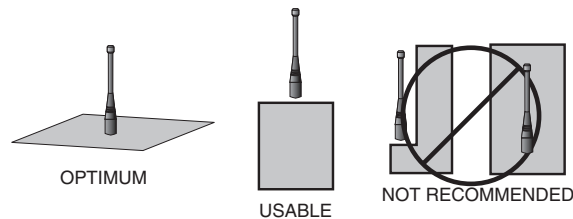

Figure 23: Ground Plane Orientation
2. Optimum performance is obtained from a $\frac{1}{4}$ - or $\frac{1}{2}$ -wave straight whip mounted at a right angle to the ground plane (Figure 23). In many cases, this isn't desirable for practical or ergonomic reasons, thus, an alternative antenna style such as a helical, loop or patch may be utilized and the corresponding sacrifice in performance accepted.